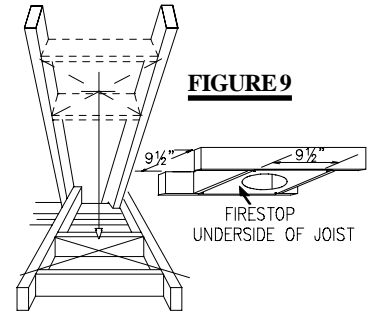
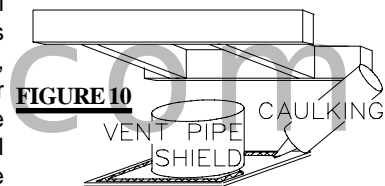

FIGURE 9
FIGURE 10
2. Apply a bead of caulking (not supplied) to the framework or to the Wolf Steel vent pipe shield plate or equivalent (in the case of a finished ceiling), and secure over the opening in the ceiling. **FIGURE 10.** A firestop must be placed on the bottom of each framed opening in a roof or ceiling that the venting system passes through. **FIGURE 9.** Apply a bead of caulking all around and place a firestop spacer over the vent shield to restrict cold air from being drawn into the room or around the fireplace. Ensure that both spacer and shield maintain the required clearance to combustibles. Once the vent pipe / liner is installed in its final position, apply sealant between the pipe / liner and the firestop spacer.